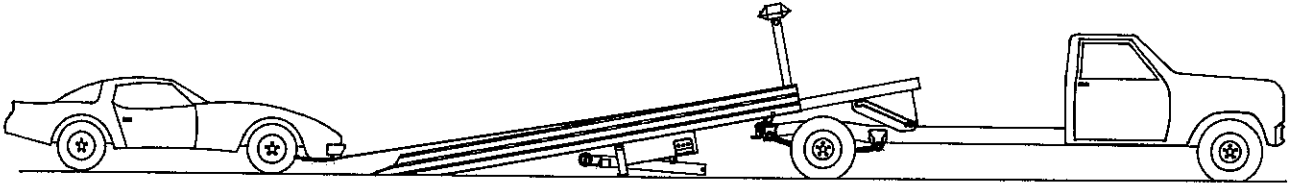

Figure 6-1.7
- 6-1.7 Load the bed. Use the winch to pull the load onto the bed. (See fig. 6-1.7)